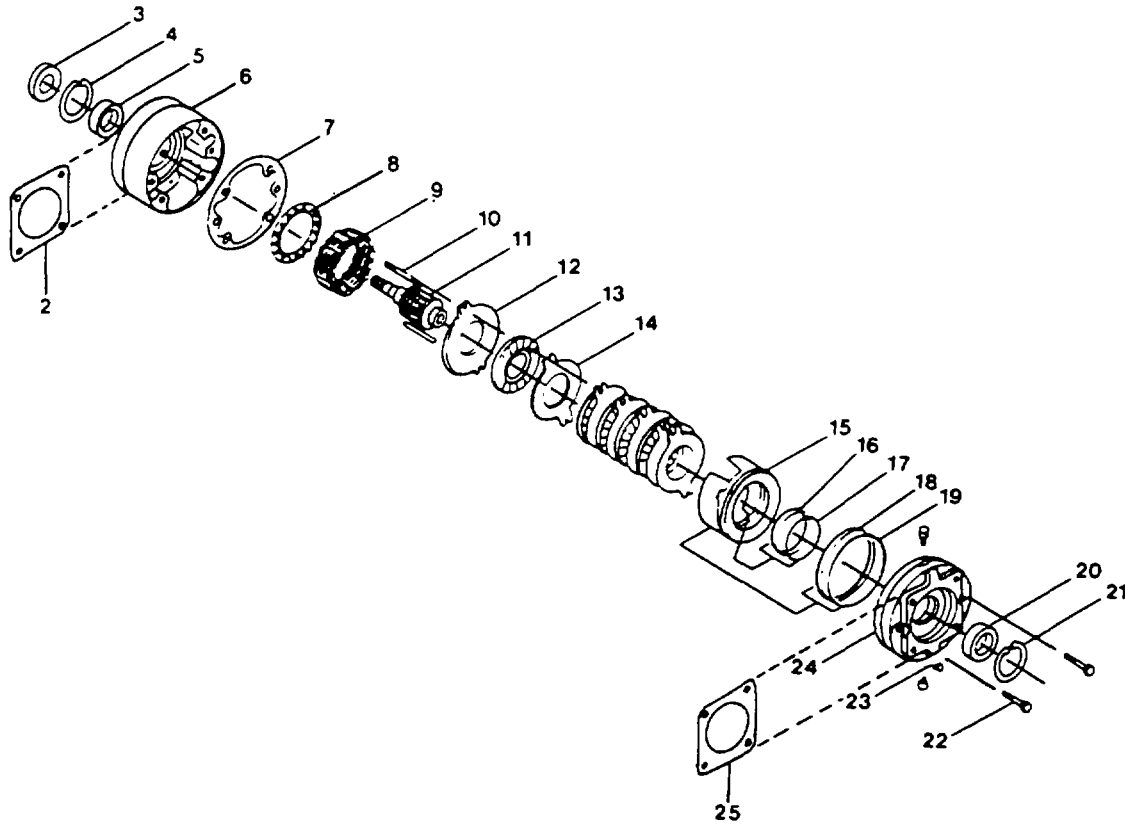

FIGURE 4-28. Failsafe Brake Assembly.
**DISASSEMBLY (FIGURE 4-28)****NOTE**
- m. Remove packing retainer (16, FIGURE 4-28), preformed packing (17), and backup preformed packing (18 and 19) from piston (15). Backup preformed packing (18 and 19) will be destroyed during removal. Note location of packing retainer and preformed packing to be used during assembly.
- n. Remove bearings (5 and 20) from housing (6) and powerplate (24).
- o. Remove relief valve (23) and inspect spring-loaded ball to ensure ball operates freely and free from contamination. Replace if necessary.
ASSEMBLY (FIGURE 4-28)